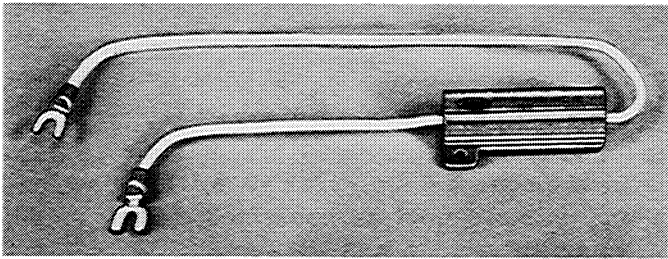

Figure 5.3. Dynamic Braking Kit.
5.2 Dynamic Braking — The standard controller allows a drive motor to coast to rest after the STOP switch is pressed. Optionally, a user may install a Dynamic Braking Kit. (Refer to Figure 5.3.) Its use allows a rapid, shockless stopping of the drive motor.